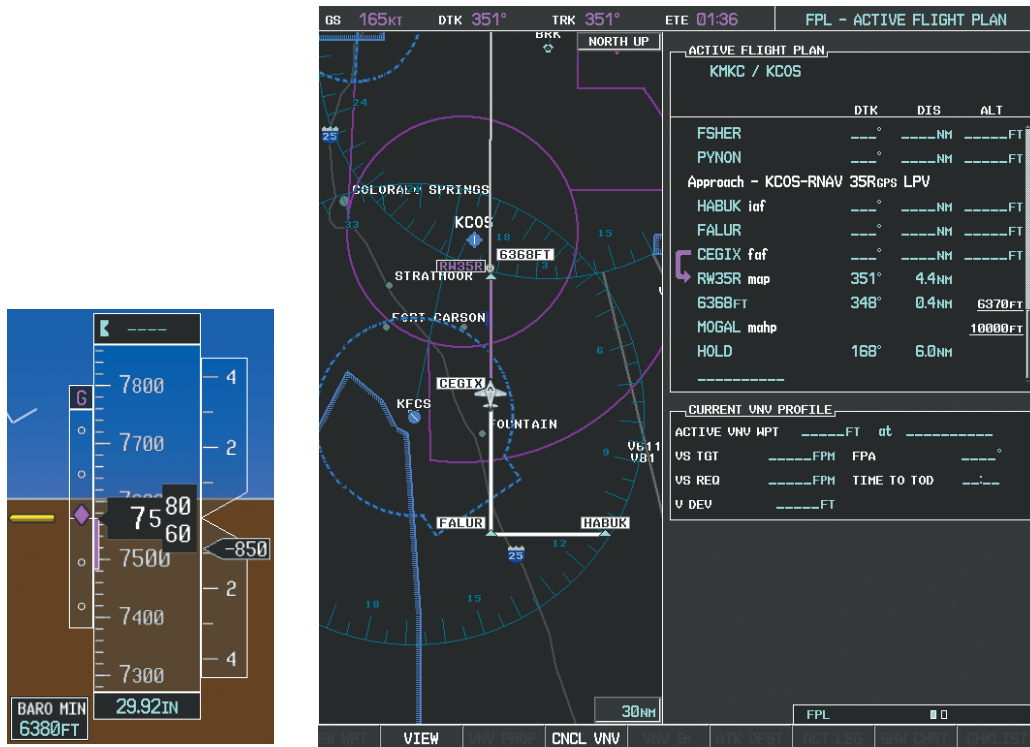

Figure 5-141 Descending to the Missed Approach Point
- 24) After crossing CEGIX, the aircraft continues following the glidepath to maintain the descent to "AT or ABOVE" 6,370 feet at the Missed Approach Point (MAP) (RW35R) as seen in Figure 5-141.